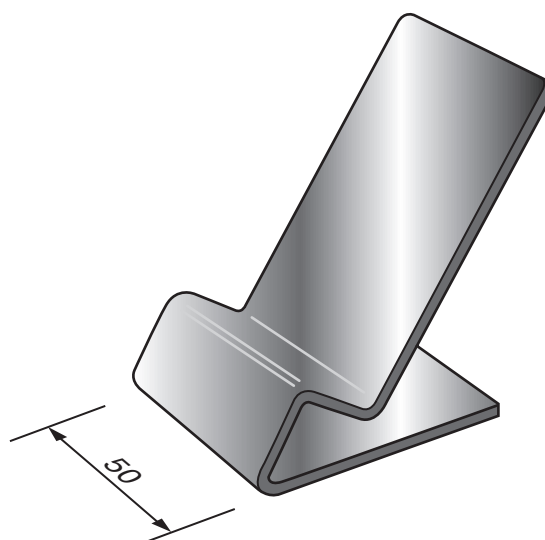

Fig. 5
- 19 Fig. 5 shows a mobile phone stand made from mild steel strip, 50 mm wide.